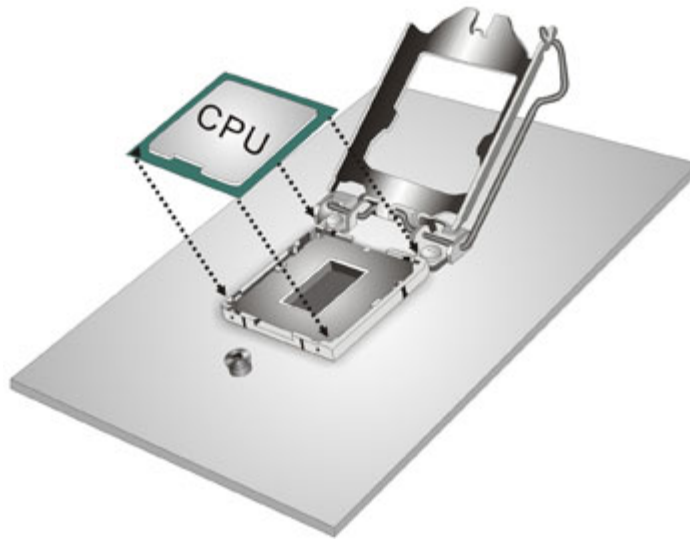

Figure 4-3: Insert the Socket LGA1150 CPU
- Step 7: Insert the CPU.** Gently insert the CPU into the socket. If the CPU pins are properly aligned, the CPU should slide into the CPU socket smoothly. See Figure 4-3.